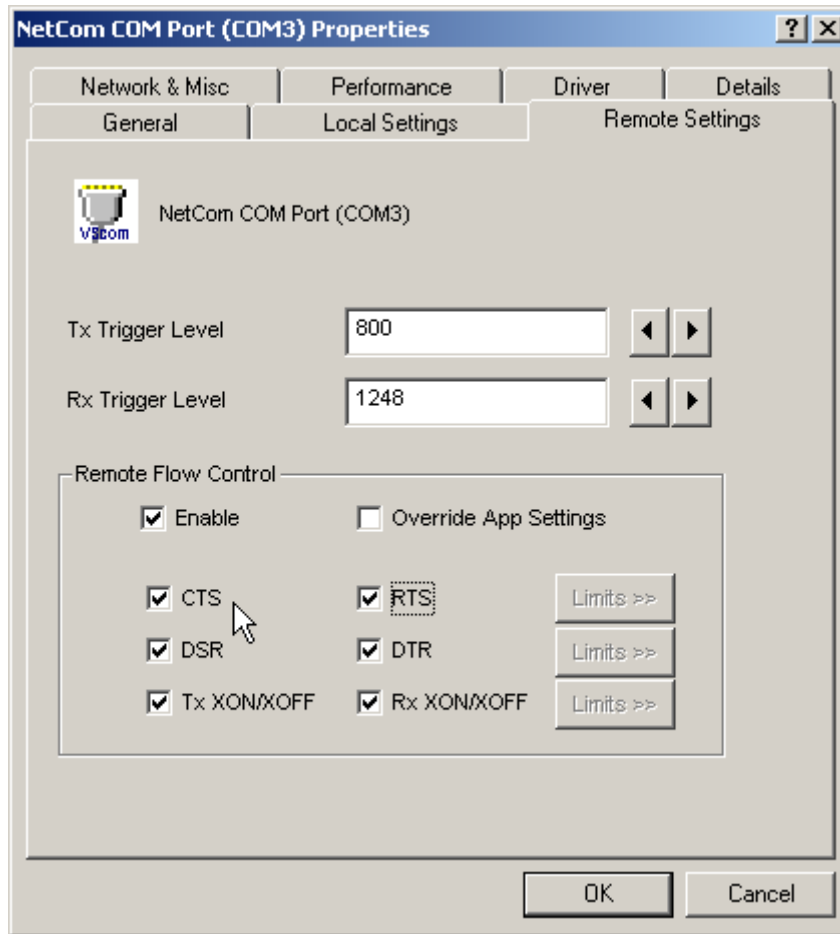

Figure 35: NetCom COM Port Remote Settings Properties
**Enable:** The configuration shown here is active, when the pre-defined performance levels are used. When using the ‘Advanced’ option, Remote Flow Control is completely disabled. Enable as required. While it is best practice to configure as figure 35, you can disable certain events here.